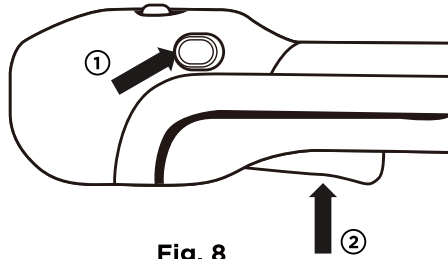

Fig. 8
Depress and hold the lock-off button①, and then squeeze the on/off switch② and hold it. Once the machine is switched on, you can release the lock-off button. (Fig. 8)